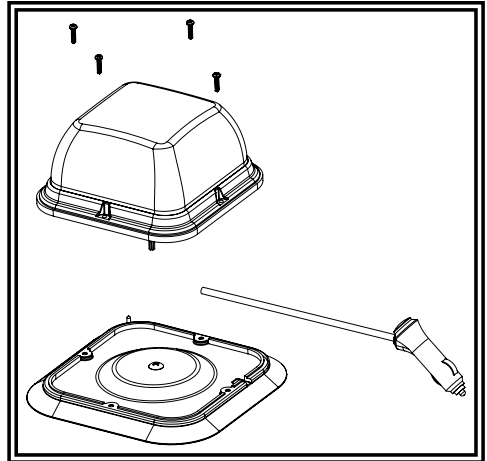

FIGURE 1
3. As a strain relief, a zip tie may be applied to the cigarette adaptor cable at the edge of the jacketing. Arrange the connectors inside the beacons base and place the unit on the vacuum mount base from the accessory kit. Route the cigarette adapter cable through the slots in the base and magnet mount. See FIGURE 1.
4. Secure the assembly using the four (4) Phillips head screws from the accessory kit. Torque to 10 in-lbs, (1.2 Nm).